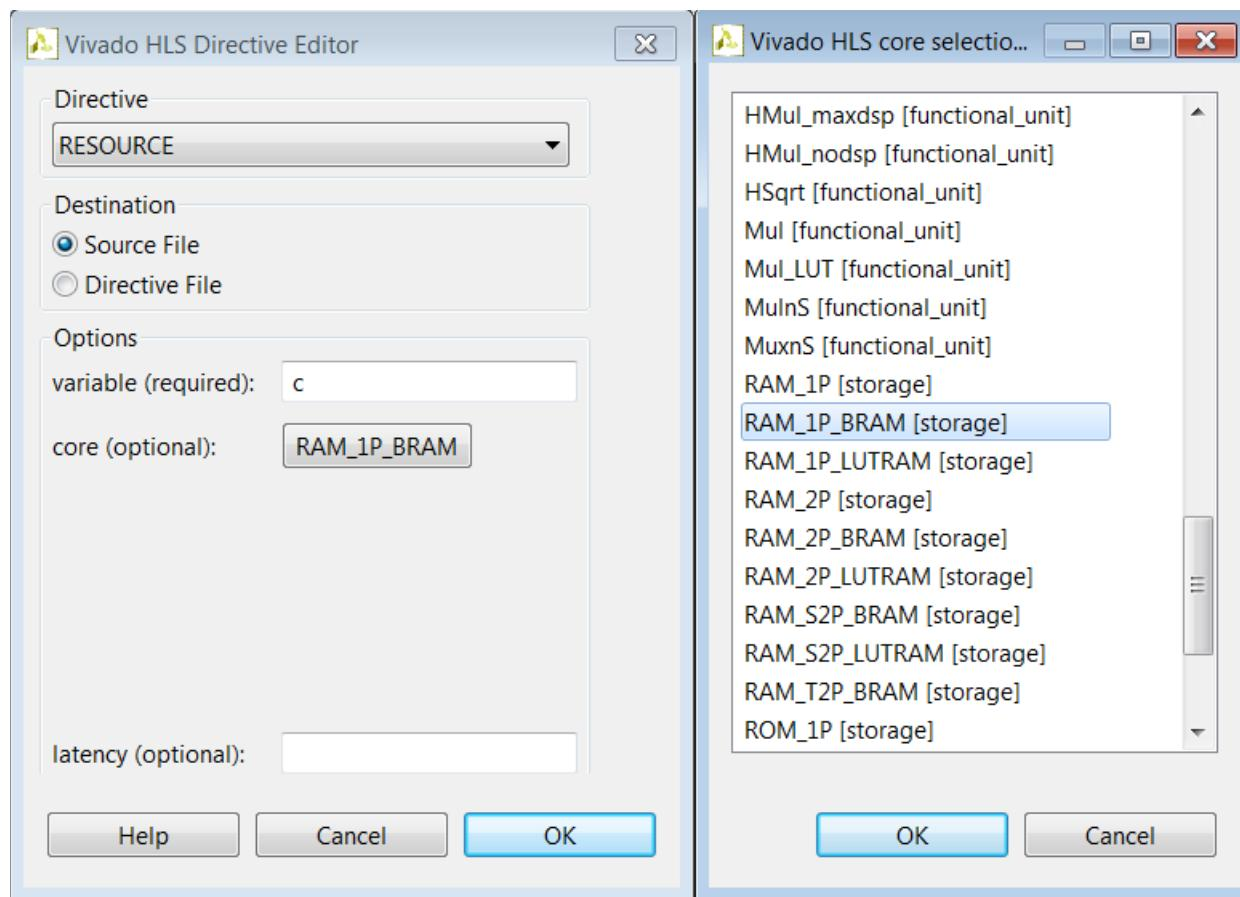

Figure 2-22: Adding a Resource Directive
- c. Select **RAM_1P_BRAM**, as shown in Figure 2-22.